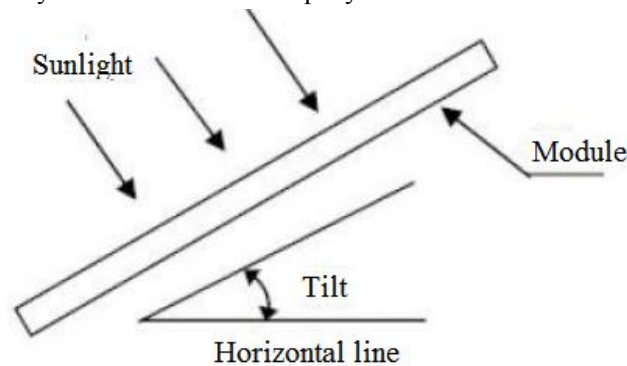

Figure 2 PV module tilt angle
- 3) The tilt angle of the PV module is measured between the surface of the PV module and a horizontal ground surface (as shows in Figure 2). The PV module generates maximum output power when it faces the sun vertical. If you want the specific information of best install tilt angle, please consult the local authoritative solar system construction company.